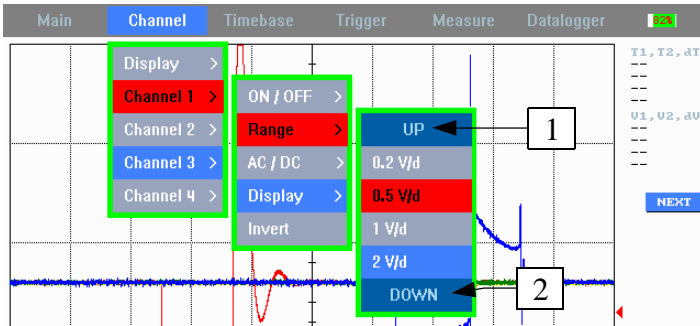

Figure 4.6
- Menu bar*: here you can set all the oscilloscope parameters and activate all the available functions. Selecting from the menu is done by cursor keys or by touching the icon directly on the touchscreen. An example of the menu can be seen on the Figure 4.6.